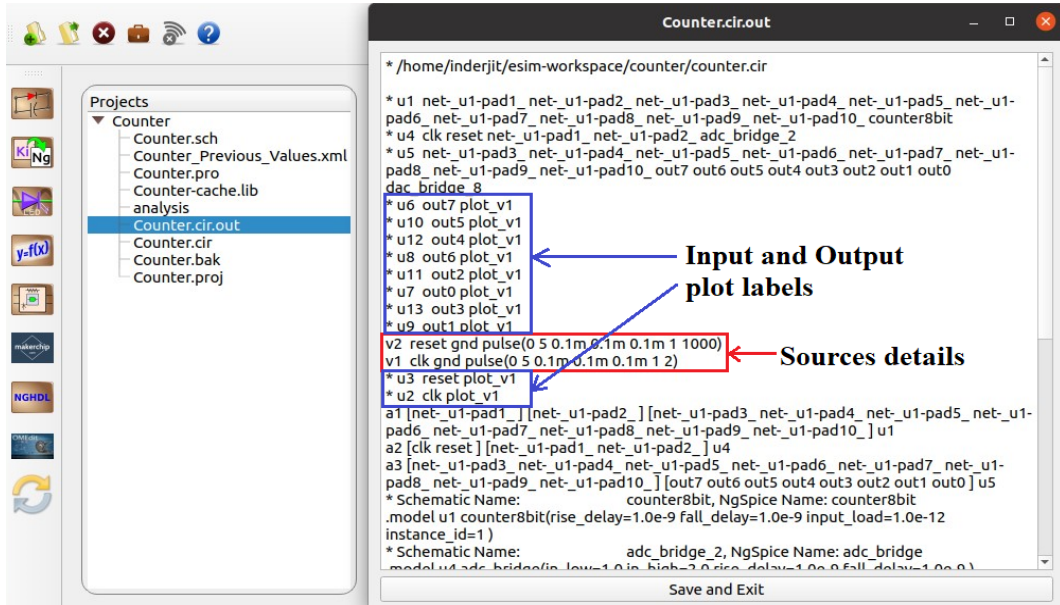
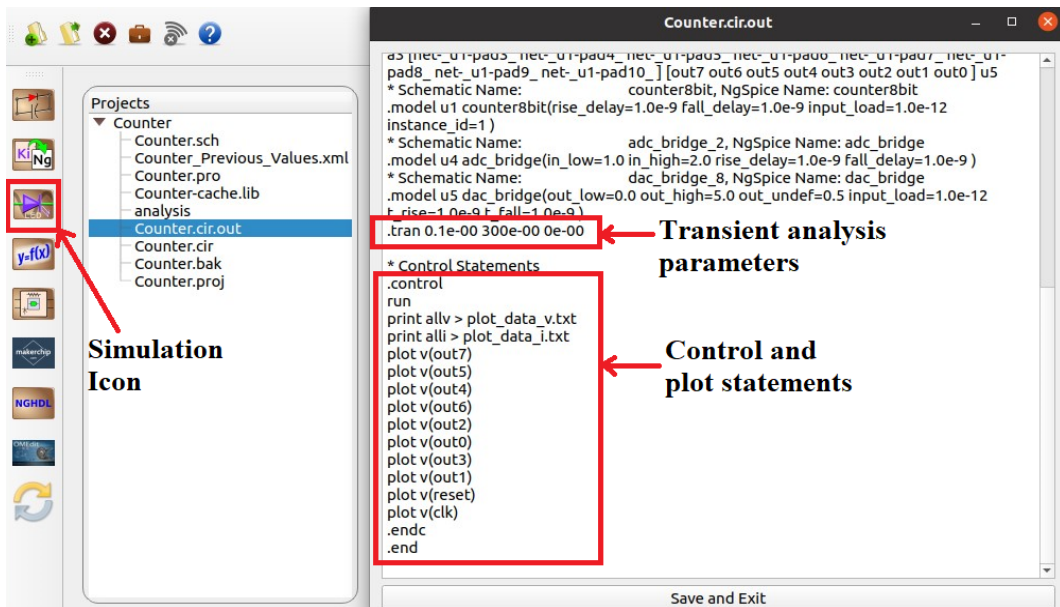
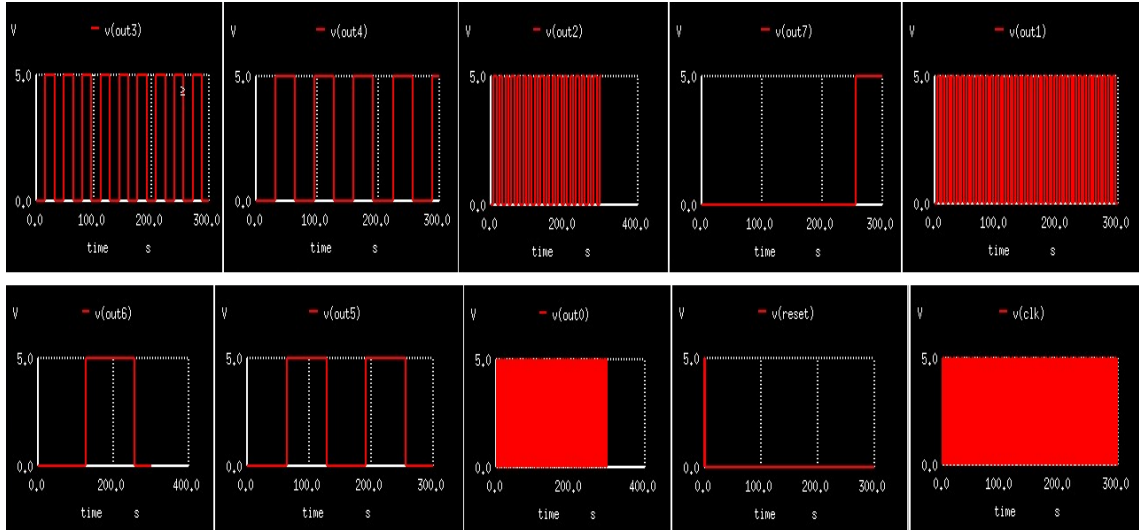

Figure 10.37: Cir.out file details Part 1
Figure 10.38: Cir.out file details Part 2
Figure 10.39: Input and Output simulation plots of 8 bit Counter
- Next, right click on **Counter.cir.out** file and open it as shown in Fig. 10.37. This file consists of Ngspice netlist of 8 bit counter including information of source, input and output plot labels, transient analysis parameters and control and plot
statements. Refer Fig. 10.37 and Fig. 10.38
- To run simulation click on **Simulation** icon as shown in Fig. 10.38. It will display input and output plots for 8 bit counter as shown in Fig. 10.39. You can see the plots of input clock, input reset and outputs out0 to out7. However, these plots are not in order.